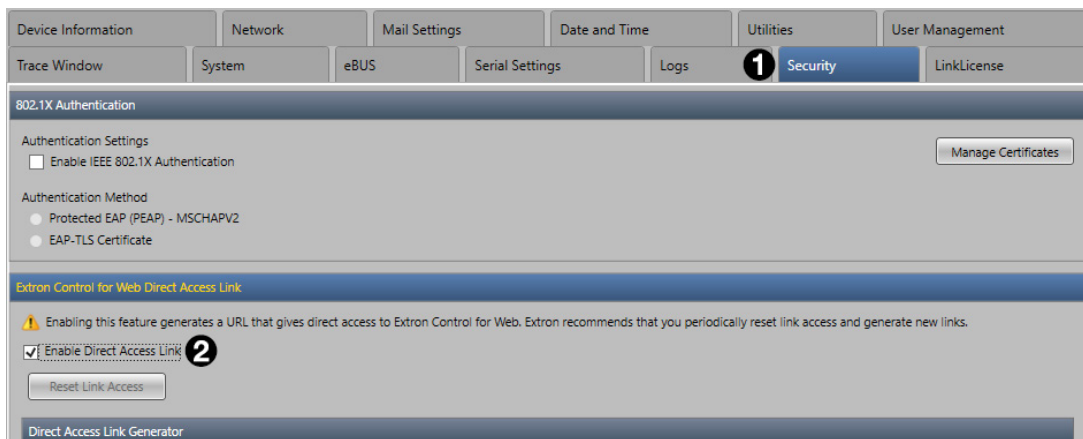

Figure 5. Enable Direct Access Link
7. Navigate to the **Security** tab (see figure 5, ❶) and check the **Enable Direct Access Link** (❷).